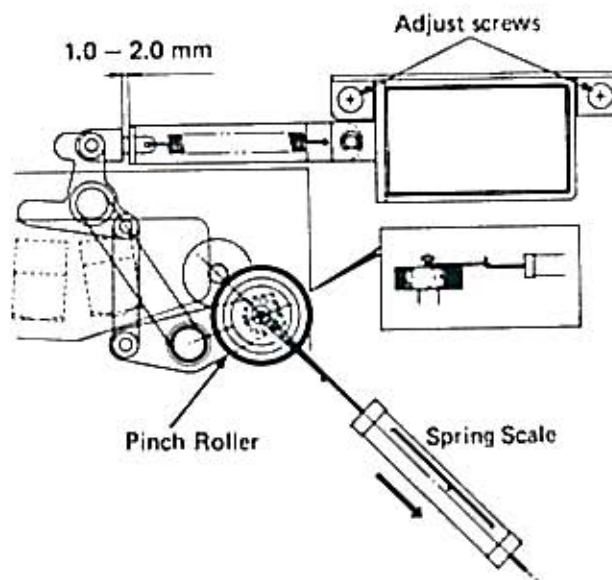

Fig. 1-3-4
3. Attach a spring scale to the pinch roller as shown in Fig. 1-3-4.